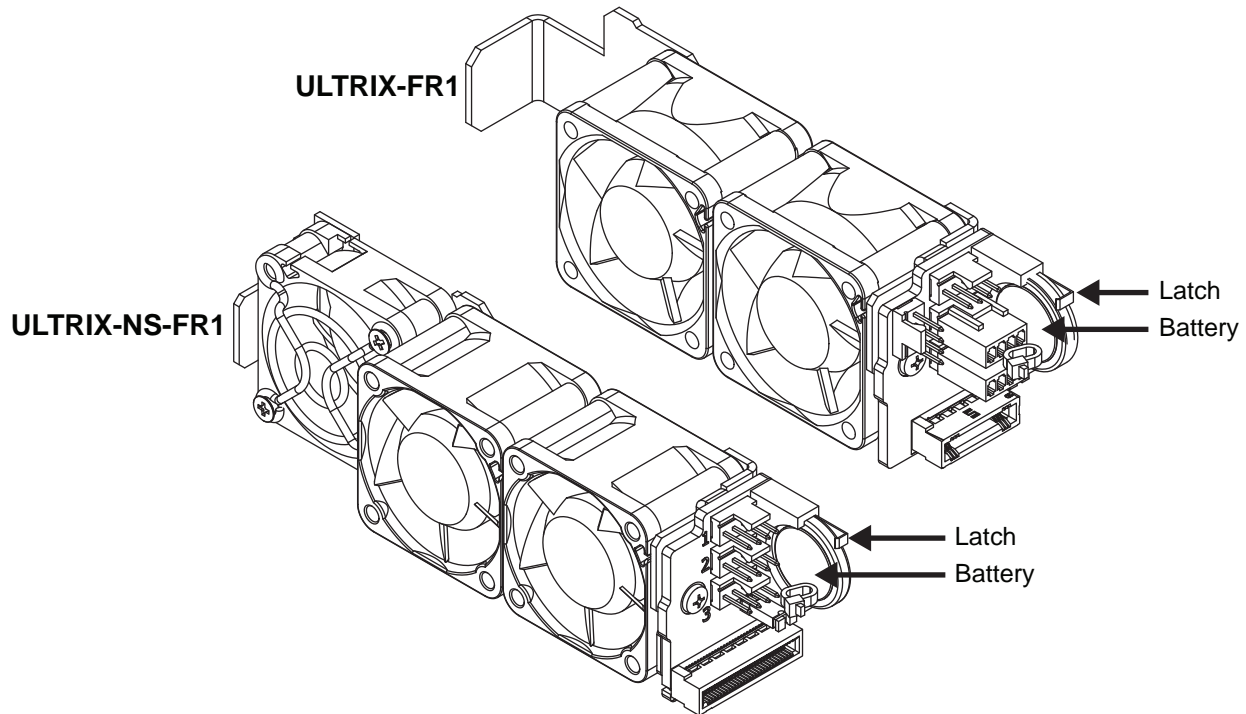

Figure 23.12 Battery Location inside the Cooling Fan Module — ULTRIX-FR1 and ULTRIX-NS-FR1
1. Locate and note the orientation of the failed battery inside the Cooling Fan Module. (**Figure 23.12**)